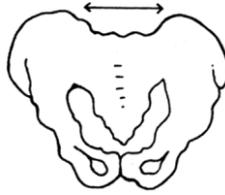

Figure 6: Lateral shift of the pelvis as viewed in the coronal plane.
- **Lateral Shift:** this is movement of the pelvis from side to side visible from the front or the back in the coronal plane (see figure 6).